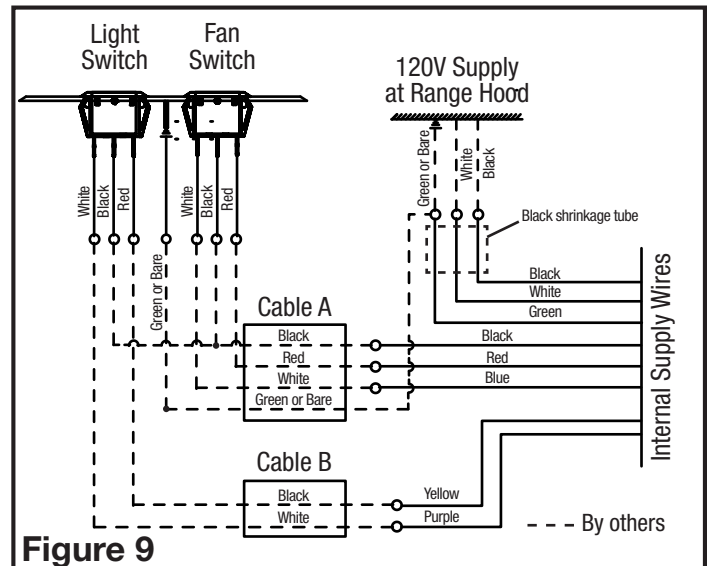

Figure 9
- Connections at the switch box (Figure 9):**